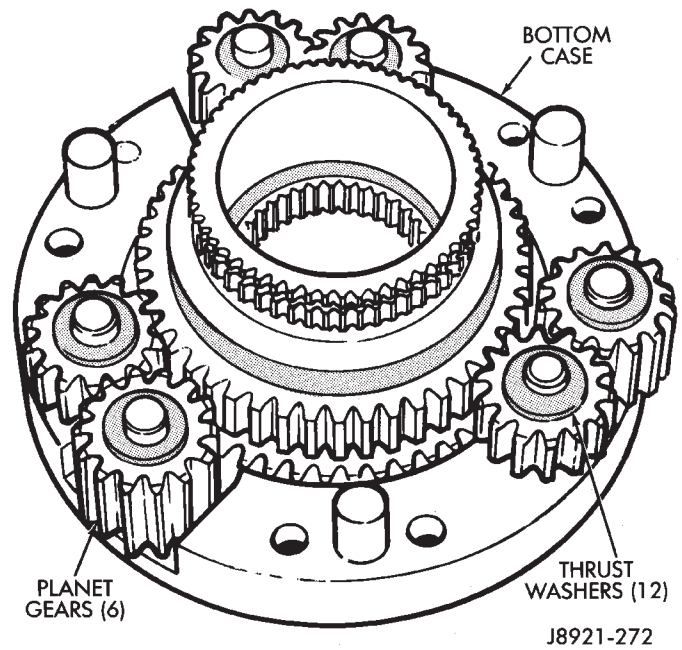

Fig. 40 Removing Planet Gears And Thrust Washers
(51) Remove thrust washers and planet gears from case pins (Fig. 40).